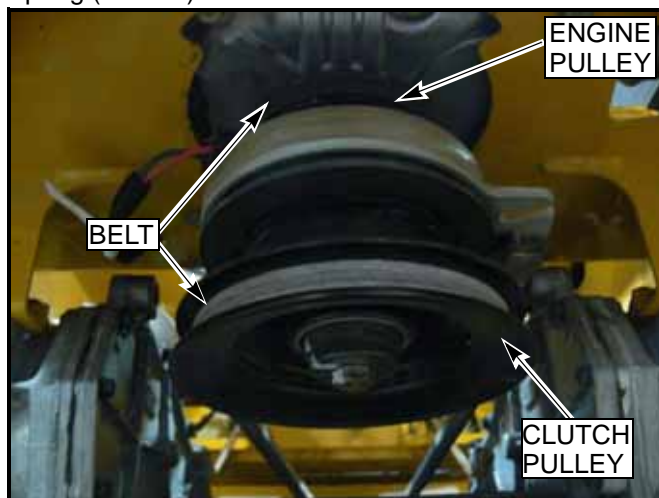

FIG. 27
- The deck belt must be removed from the clutch pulley first by releasing the deck belt tension by pulling on the belt tension chain and sliding the chain out of the anchor bracket slot. This will relieve the tension on the deck belt idler spring (FIG. 27).
- Slide the belt off the engine pulley. The belt will have to be slid above the engine pulley to allow the belt to be removed from the other pulleys (FIG. 27).